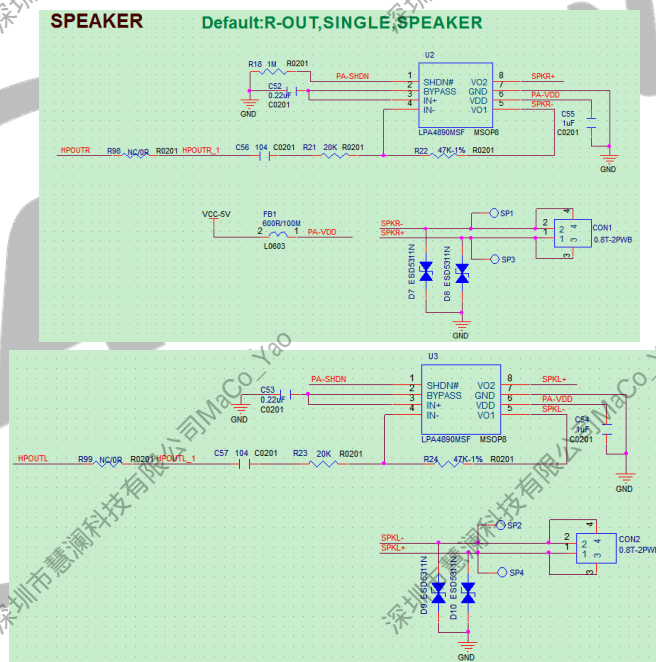

Figure 2-42 SPEAKER Circuit Design
- R818 supports the stereo dual speaker outputs. If the product is mono speaker output, please connect the power amplifier to the HPOUTR signal by default. Meanwhile, the power amplifier enabling signal needs to be connected to the pull-down resistors to GND by default to avoid the abnormal sound of the upper and downer speakers. During designing a power amplifier, pay attention to the selection of the feedback resistors. The selection of the feedback resistor should refer to the specification of the power amplifier to avoid the excessive amplification factor, which may cause sound distortion. As shown in Figure 2-42.